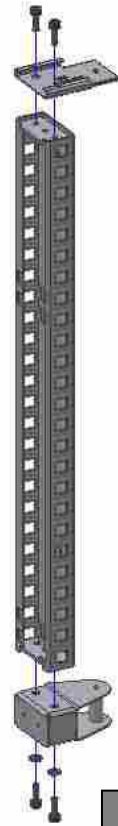

Fig 25
STEP 4 – Join the **generator** to the **bar**, both at the top and the bottom (Fig.25)